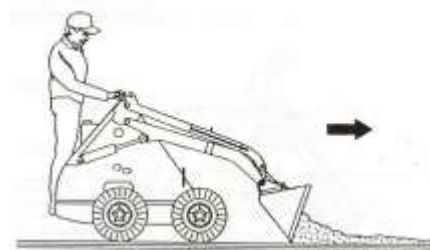

Figure 14
1. To spread material on uneven ground, raise lift arms and tilt bucket forward while driving slowly forward, as shown in Figure 14.